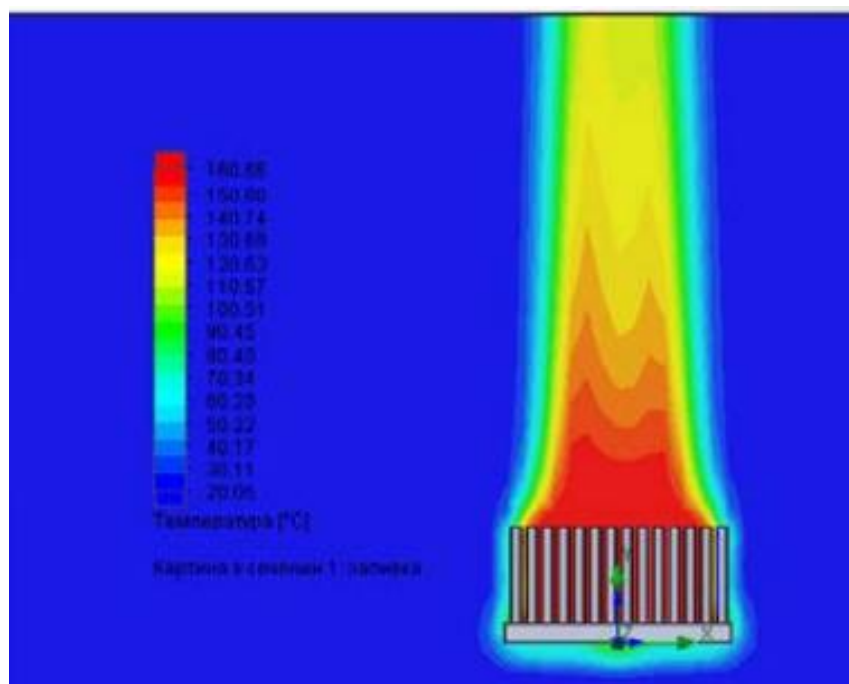

Figure 8.9 – Heat transfer simulation result
8.2.10 We start the simulation by clicking on the "Run" command in the "Ribbon" of the program. The result of the heat transfer process is shown below (figure 8.9).